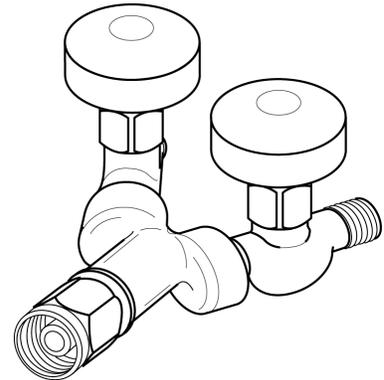

Figure 7.19 “Y” high pressure DISS 1290 adapter
4. Using a “Y” adapter (see figure 7.19), attach the “Y” adapter shown here to the regulator. A